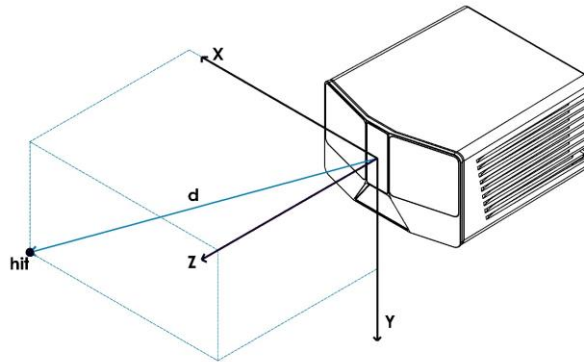

Figure 29. Point cloud reference coordinate system.
- X, Y, Z are the coordinates of the hit¹ in the coordinate system described in Figure 29;